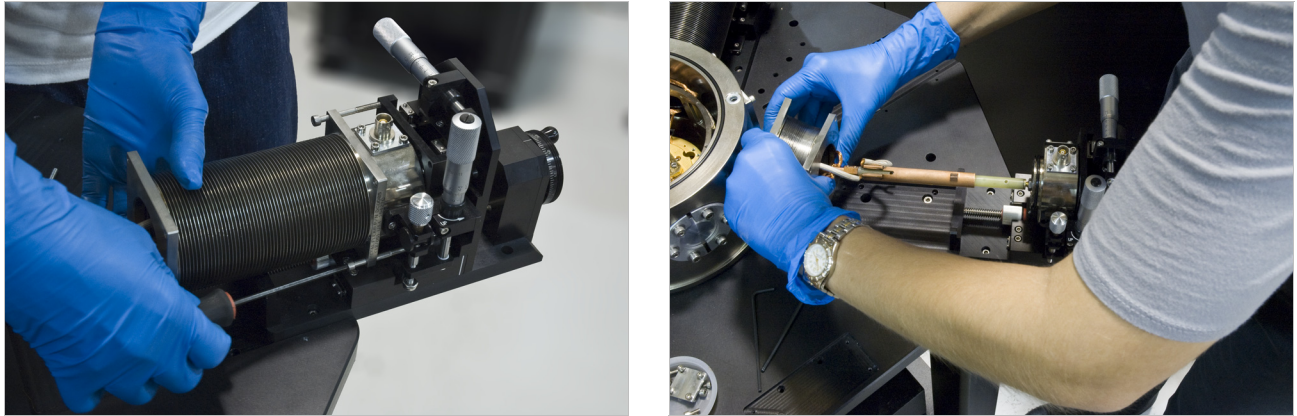

FIGURE 5-9 *Left: Remove the four horizontal screws that attach the bellows to the z-axis stage; Right: Compress the bellows to remove it from the probe arm*
1. Using the 3 mm hex driver, loosen and remove the four long M4 horizontal screws that attach the bellows to the z-axis stage (FIGURE 5-9).
3. Compress the bellows to make room to slide it carefully off the probe arm. When you reach the end of the probe arm, you will need to tilt it up to remove it from the probe arm (FIGURE 5-9). Place the bellows on a clean, lint-free cloth or wipe.